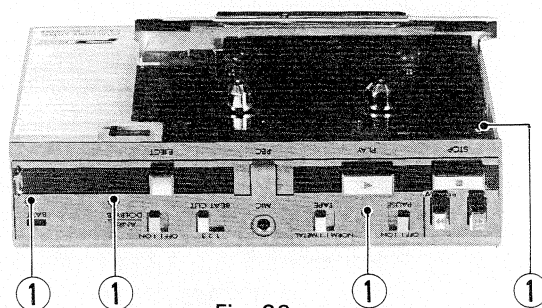

Fig. 22
A. Removal of top cover (Fig. 22)
1. Open the cassette holder, remove 4 screws (1) SPSH1740N, then remove the top cover.